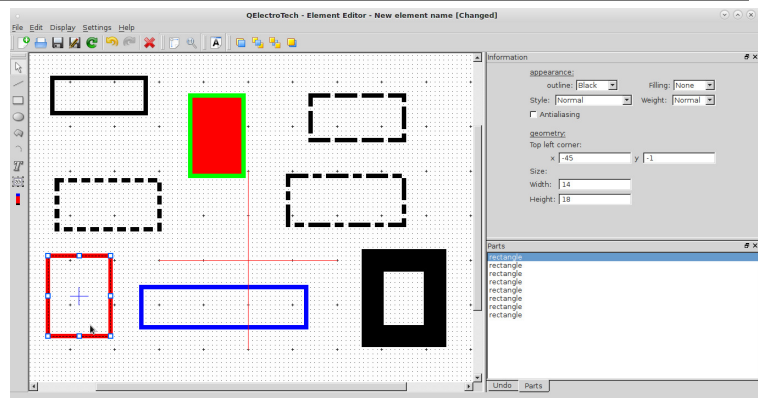

Figure 11: Rectangle tool and information
**Terminal tool:** Terminals have to be provided for the element to integrate it in a circuit. The element editor will not save a drawing without at least one terminal. Terminals can be drawn from the short red-blue line icon provided in the drawing bar. It is described in the Figure 11. Left mouse click on the 'Add a terminal tool' from the drawing bar to activate it and left click on a point in the drawing area where you want to place this terminal. Once added it can be selected and drag dropped to a suitable location.